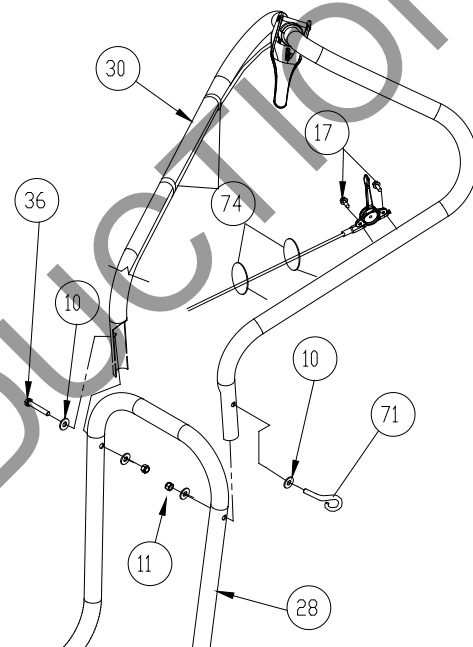

Fig. 1
1. The hardware for attaching the upper handle to the lower is in the parts bag. Install upper handle (item 30), to preassembled lower handle (item 28) by sliding the upper handle over and down the outside of the lower handle. Using the bolts (items #36 and #71), washers (item #10) and lock nut (item #11) to install upper handle to lower handle. **NOTE:** The Pigtail bolt should go on the side that the pull start is on and the open end should be facing down. Finish installing the other side of the upper handle assembly using screw and lock nut provided. (See Fig. 1)